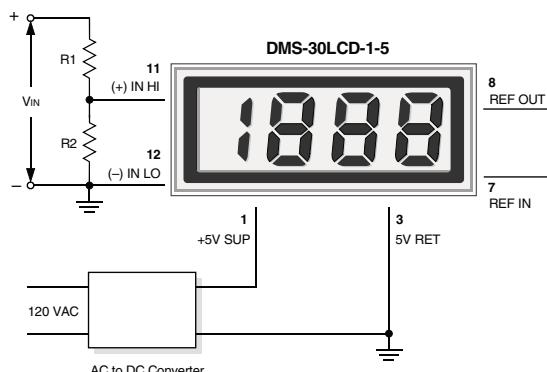

Figure 4. Input Attenuation Circuit
- 3. Engineering Scaling:** For measuring voltages greater than the full scale input range of a given meter, the input signal must be attenuated. A simple voltage divider (similar to that shown in Figure 4) will scale the input to within the range of the selected meter. R1 and R2 should be precision, $\pm 1\%$, metal-film resistors with absolute TCR's less than 50ppm/ $^{\circ}\text{C}$. See Ap Note 4 for more information on engineering scaling.